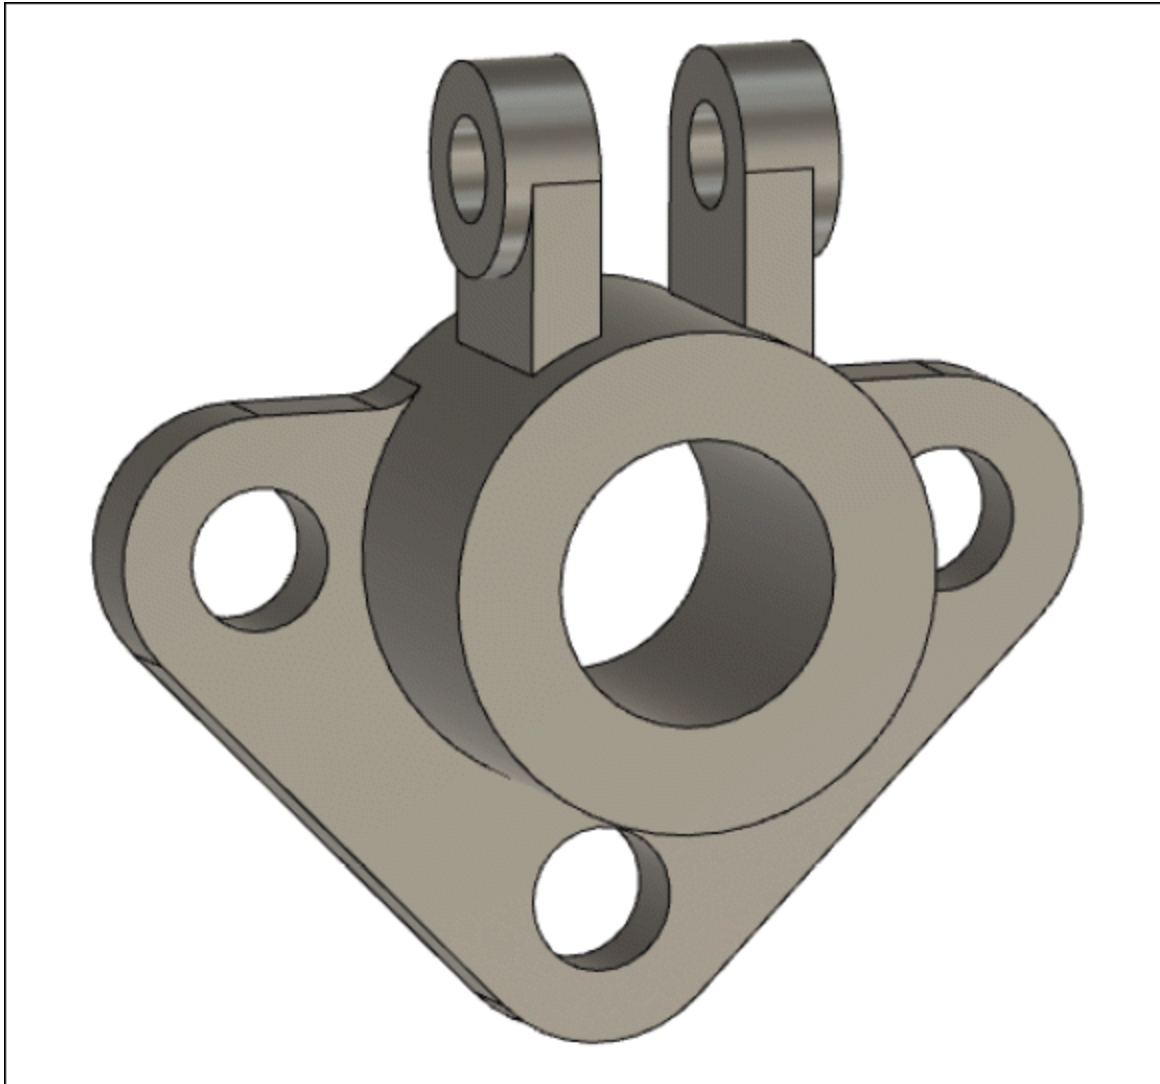

Figure-62. Final model of Practical 4
- Click on **OK** button from the dialog box to complete the process of combining the bodies. The model will be displayed as shown in Figure-62.